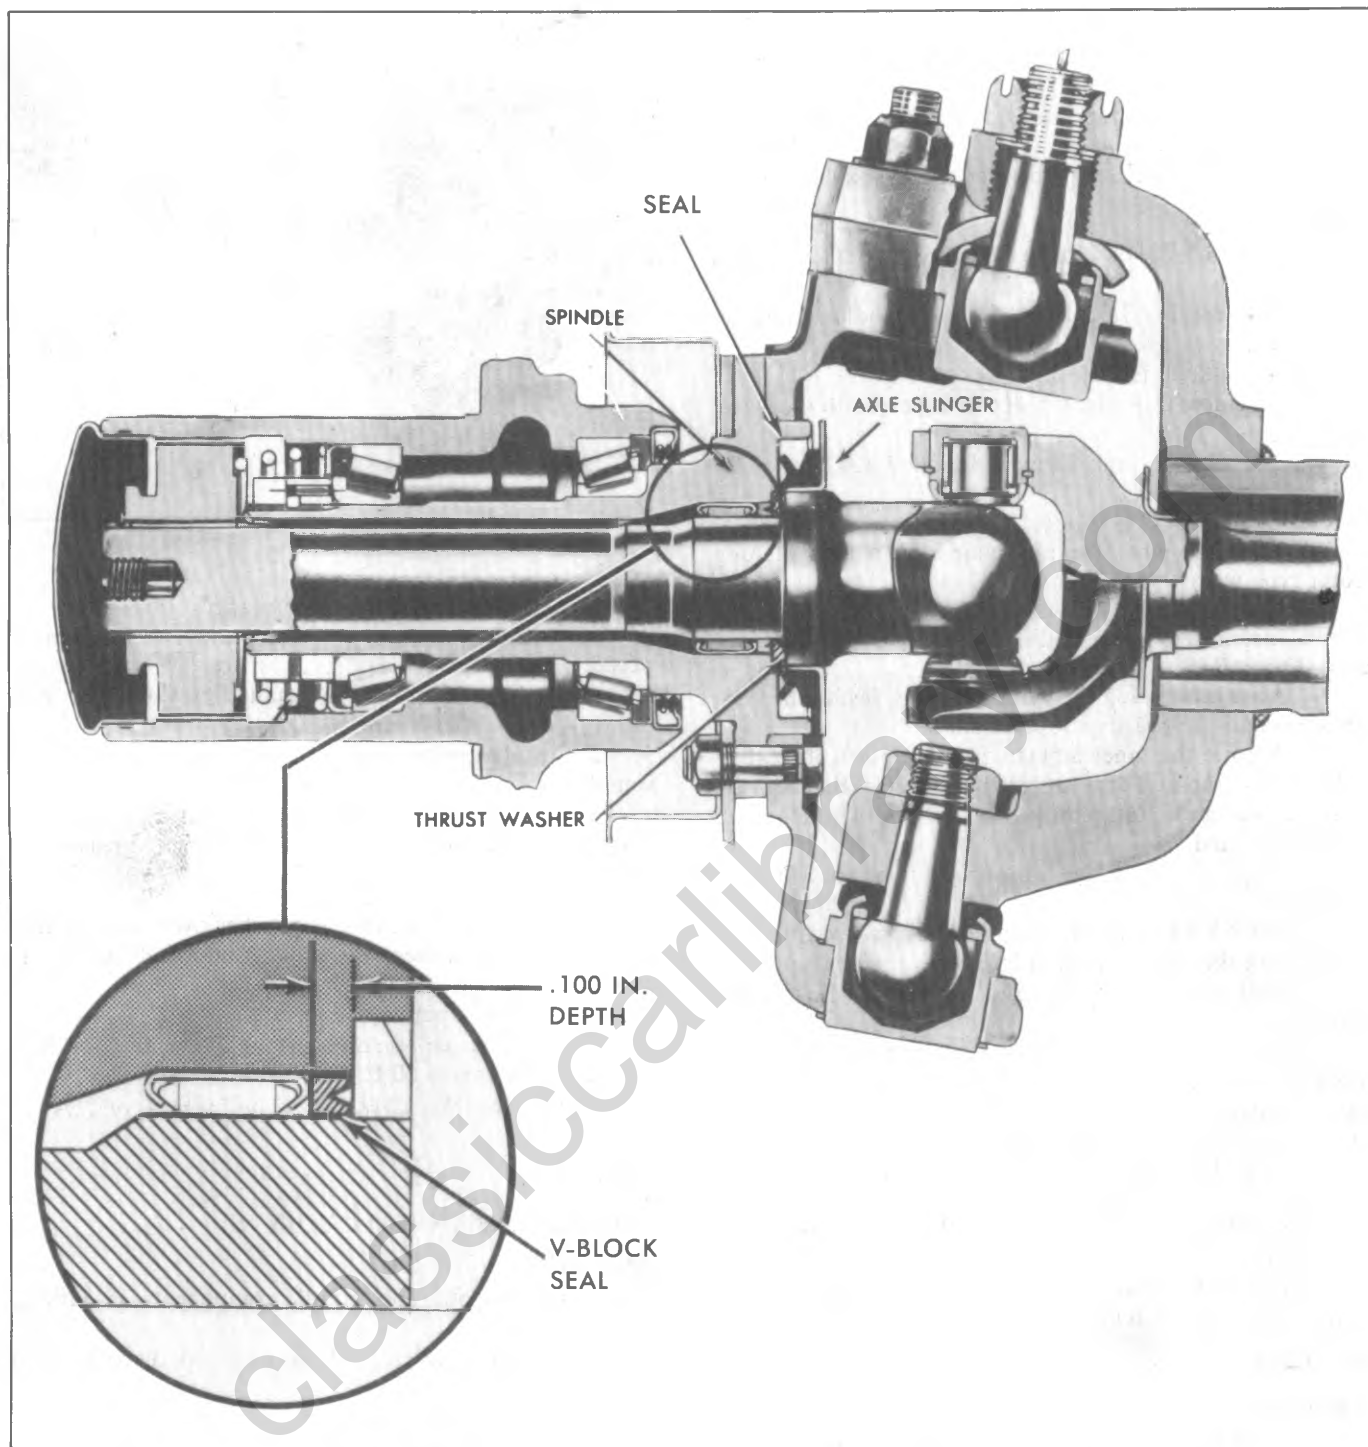

Fig. 3C-7K--Front Spindle Grease Seals
4. Remove the retaining nuts from the upper and lower ball sockets as shown in Figure 3C-10K.
CAUTION: Do not remove the yoke upper ball stud adjusting sleeve unless new ball studs are being installed. If it is necessary to loosen the sleeve to remove the knuckle, do not loosen it more than two threads using Spanner J-23447 as shown in Figure 3C-15K. The nonhardened threads in the yoke can be easily damaged by the hardened threads in the adjusting sleeve if caution is not used during knuckle removal.